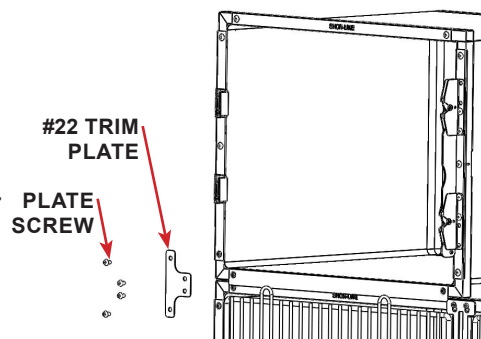

FIGURE 2.37 - Trim Plate #22
STEP 9: Remove the screws (4 ea) from the bottom left corner of the new cage and the top left corner of the cage below. See FIGURE 2.37
STEP 10: Install, but do NOT fully tighten screws, the middle-left trim plate (#22) using the screws removed in the previous step. See FIGURE 2.37